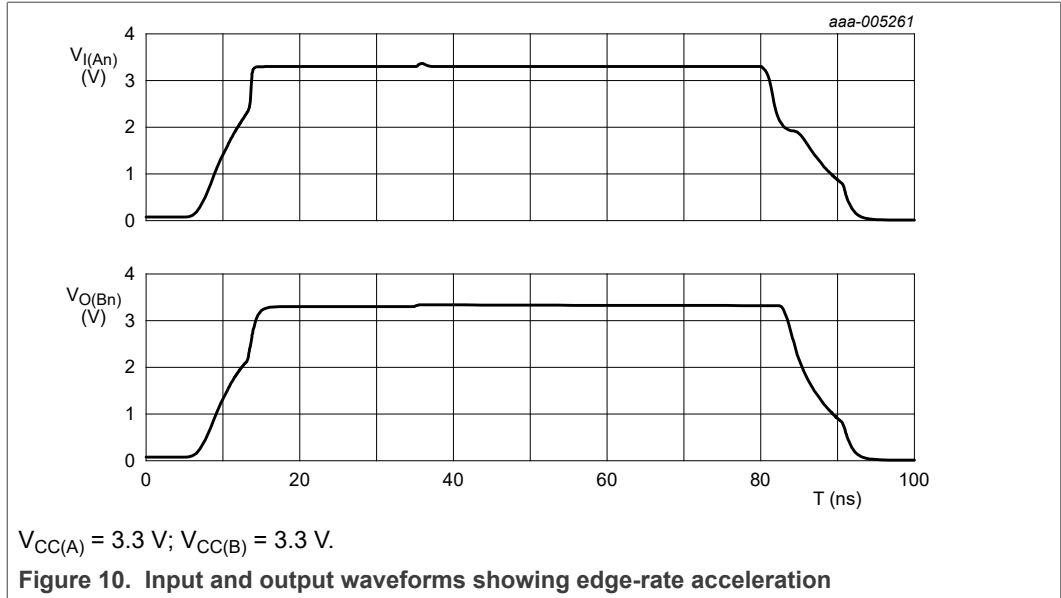

Figure 10. Input and output waveforms showing edge-rate acceleration
2. An output edge-rate accelerator that detects and accelerates rising and falling edges on the I/O pins (see Figure 10).